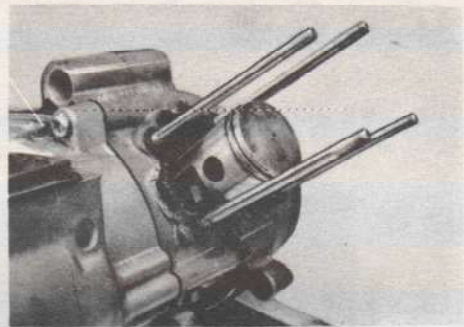

Fig. 3-17
- Always use a new cylinder gasket. (Fig. 3-17)